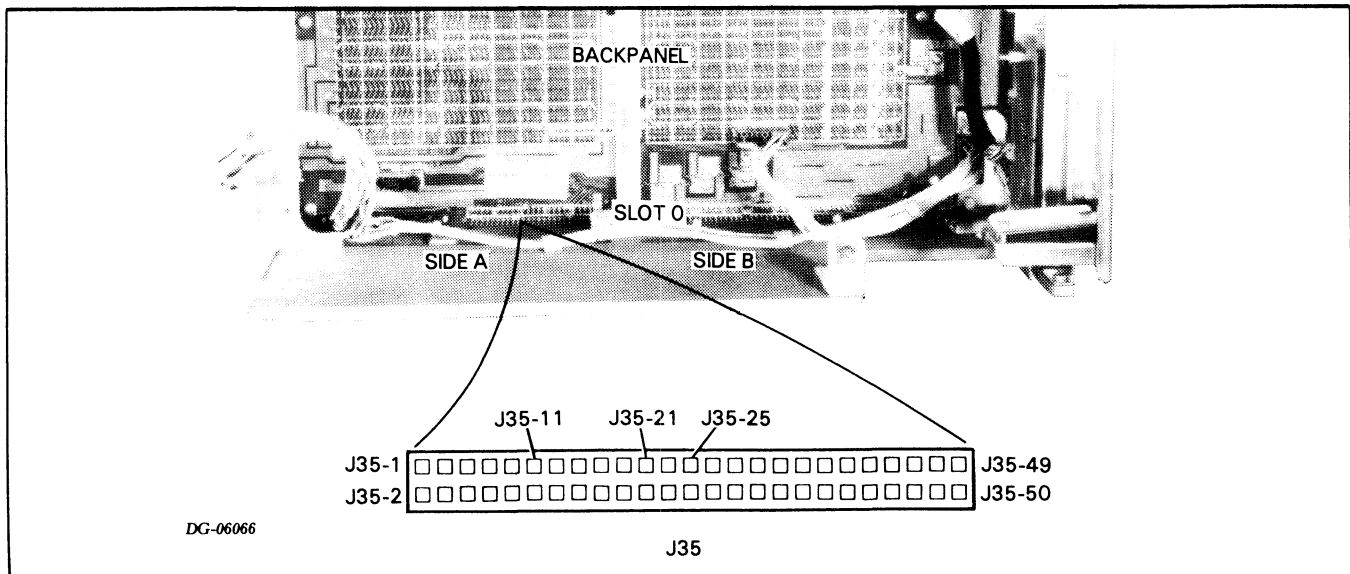

Figure 6.7 JACK J35
5. Short **MEMD** at J35-21 to **GND** at J35-1 (see Figure 6.7).
- Check the -11V voltage at J35-25 (see Figure 6.7)
- b. If the light is NOT on, check the  $\overline{\text{ONLED-P}}$  voltage at J35-11 (see Figure 6.7).
2. Check the **+12 MEM** voltage at location J35-3 (see Figure 6.7).